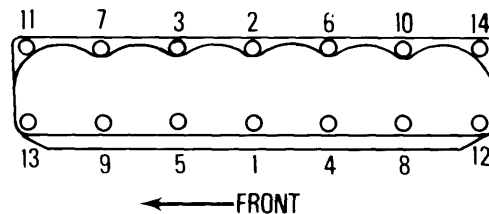

Fig. 2 Tightening Sequence for Cylinder Head
4) Coat threads of head bolts with engine oil and install bolts. Tighten cylinder head bolts, in steps, in sequence as shown in Fig. 2. Reverse removal procedure to install remaining components.